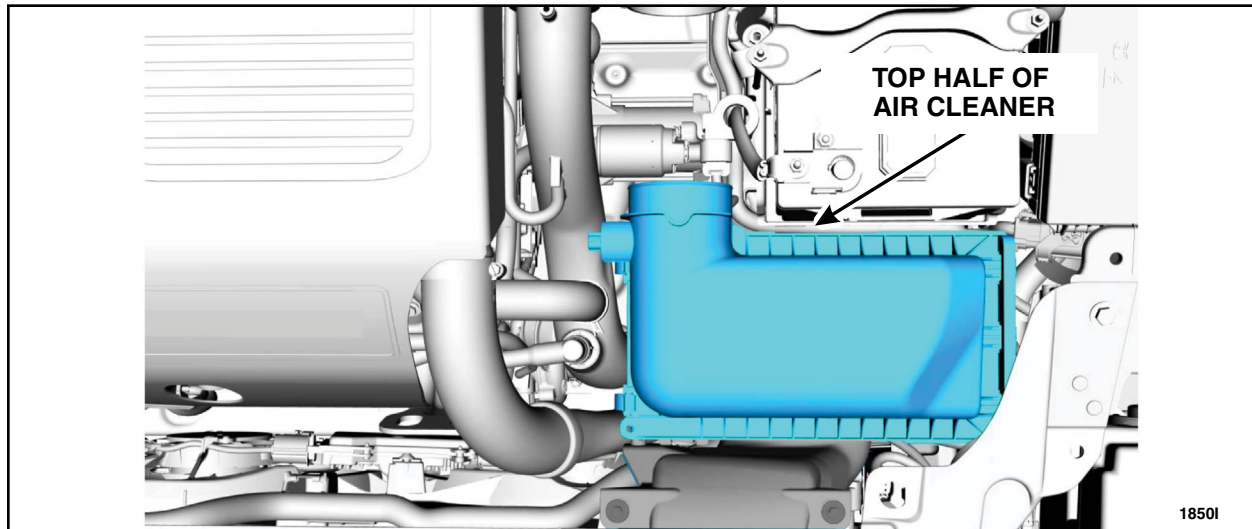

FIGURE 10
2. Remove the upper half of the air cleaner. See Figure 10.